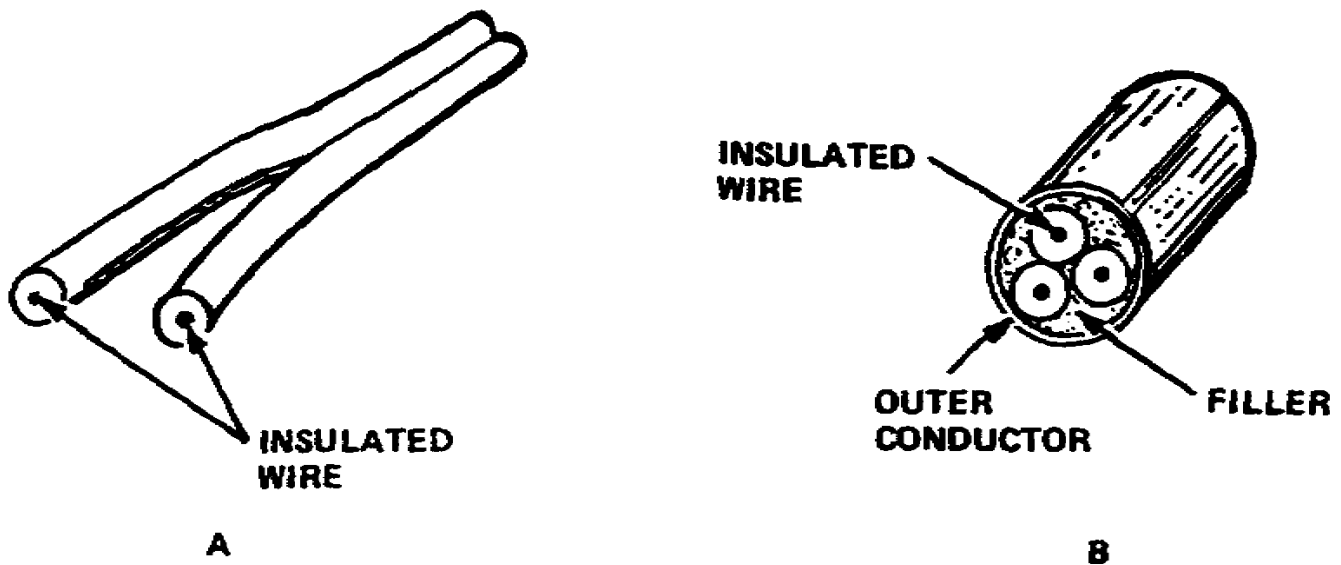

Figure 5-8. At A a two-conductor cord. At B a common three-wire utility cord
2. Radio-Television Cords. A cord is simple, durable cable, with two or three conductors, used to transfer electrical current to an appliance or device. The more familiar types of cords are the two and three conductors, 117 volts utility cords (fig 5-8).